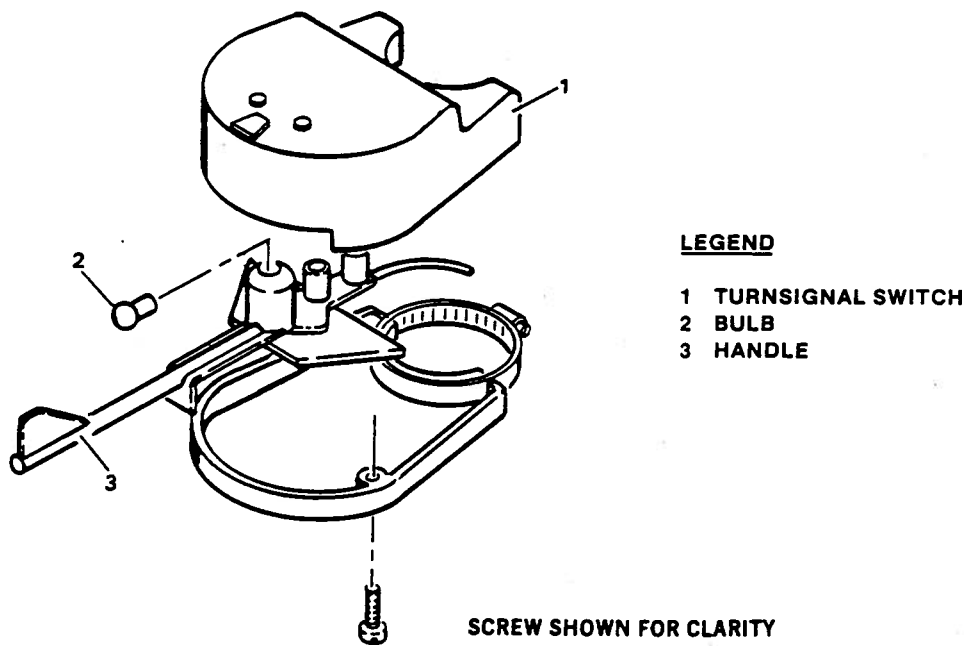

Figure 5-21. Turnsignal Switch Assembly
5-32. DISASSEMBLY. (See figure 5-21.)
- d. Remove handle (3, figure 5-21) and bulb (2).